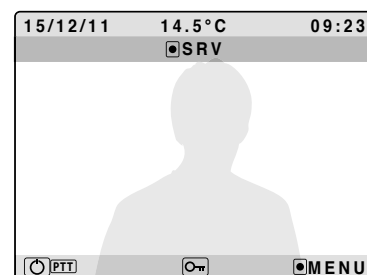

Fig. 16
- To enable the secondary service keep pressed the  button until the activation signals (call tone plus message) are received (**Fig. 16**);